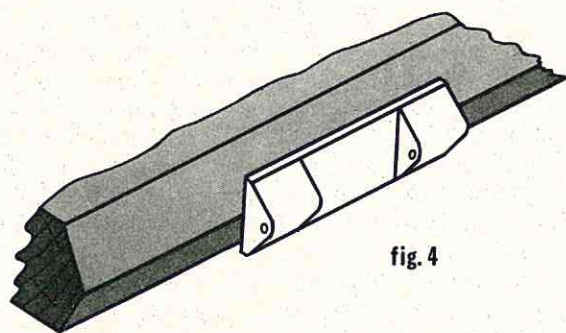
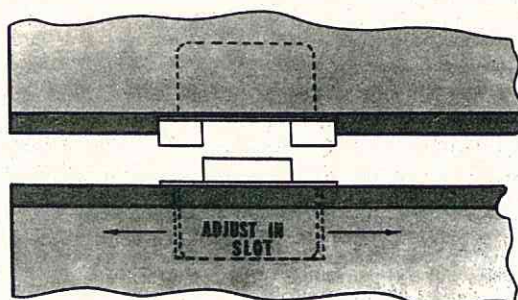

fig. 4
fig. 8
STEP 3. Work on one hinged part only. Push the hinge into the slit up to its flange. (fig. 4)
STEP 7. After installing both halves, take the opposite surface to be hinged and insert the other hinge halves as on Fig. 4. Check the position of these against the mating halves and adjust their fit by sliding the hinge in the knife slots. (Fig. 8)
trol surfaces. Visualize the take-off with your RCM Trainer; for example, actually go through the motions of flying. Visualize, if you will, a 360° turn to the right, and then a slow, easy figure 8 over the transmitter. In your own mind, get used to flying the aircraft towards you, one of the most difficult problems that the beginner will encounter during his first flights. Remember, if an aircraft is flying toward you, and as you're facing it, you notice that one wing is down, move your stick gently in that direction. This is the easiest method for the apprentice flier — moving the transmitter stick in the direction of the wing that is down in order to level off the wings when the aircraft is flying towards you. Practice a gentle pressure on the sticks, — no erratic yanking or pulling of the control sticks. If you are flying a two-stick system, grasp the transmitter firmly with both hands, with one thumb resting on the end of each control stick. Learn to move the stick gently and visualize the aircraft in flight. Nothing is more disastrous than for a beginner flier to drastically over-correct, and then, seeing the results of this action, to violently over-correct in the opposite direction. Before you know it, the